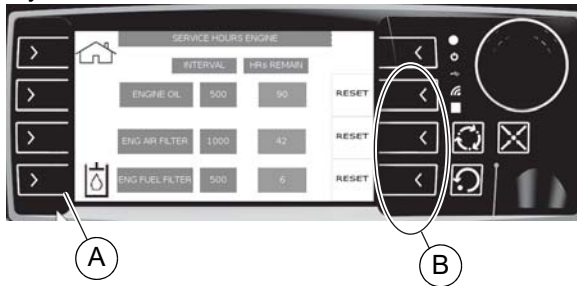

Figure 4-5. Service Hours Engine Page
See **Figure 4-5**. The Service Hours Engine page displays.
1. See **Figure 4-5**. On the Service Hours Engine page, press the indicated icon (A).